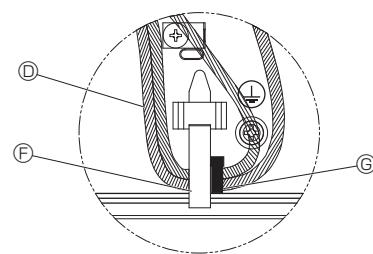

Fig. 5-10
5. Install a band on the optional lead wire, Transmission cable and Remote control cable and perform measures against tension. (Fig. 5-10)
- (A) Electric component cover
- (B) Electric component box
- (C) Indoor controller
- (D) Optional VALVE KIT lead wire
- (E) Clasps
- (F) Cable clamp
- (G) Small band (included with the optional VALVE KIT)